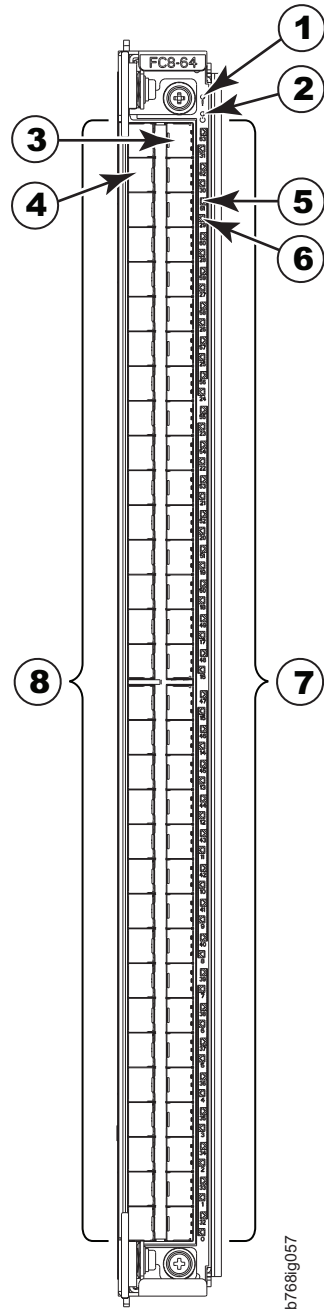

Figure 57. FC8-64 port blade
- Figure 57 on page 169 shows an FC8-64 port blade